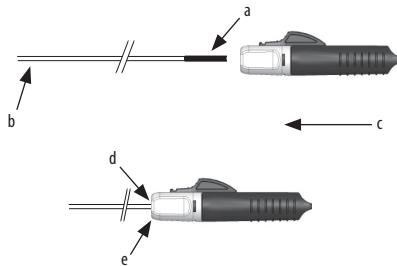

Figure 1.
- Hold the proximal end of the implant pusher at the distal end of the PLI (positive load indicator). Advance the Instant Detacher (I.D.) over the delivery pusher until the PLI fully enters the funnel and the delivery pusher is firmly seated in the actuator (See Figure 1).
Note: If the PLI is still showing as in Figure 2 below, the Instant Detacher (I.D.) should be advanced further until the delivery pusher is fully seated in the funnel as in Figure 1 above.